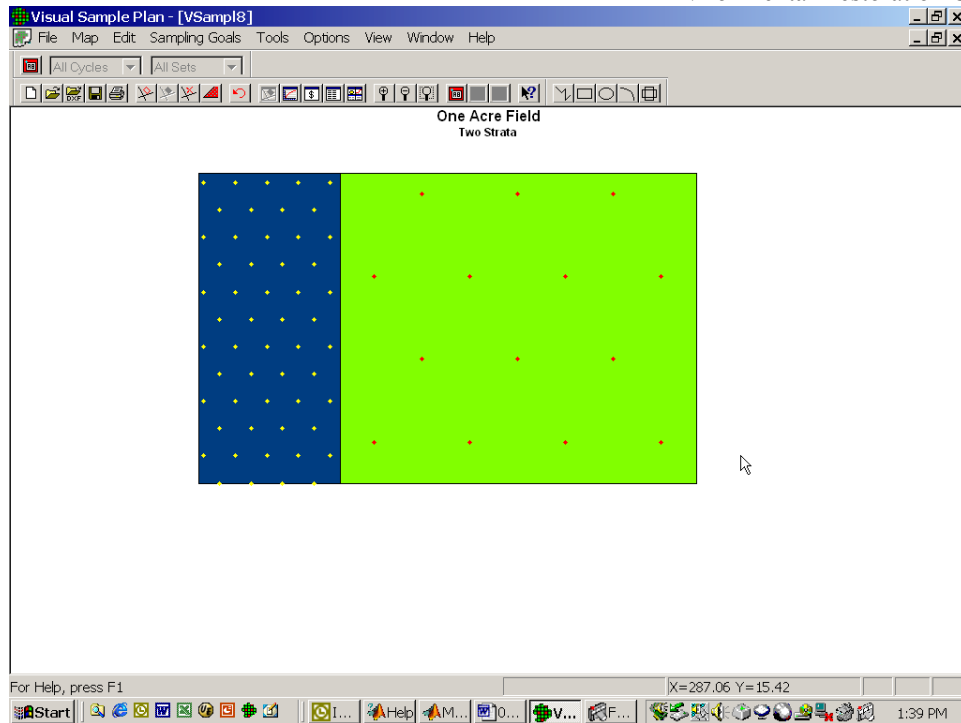

Figure 17. Example of subdivided sampling area
To make your screen look like Figure 17 below:
- Left-click in the right-hand subsection to display it as well. Your screen should now closely resemble Figure 17.